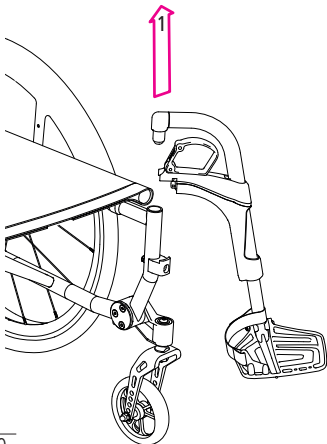

Fig. 20
4. Now you can pull upwards on the leg rests and remove them (1, Fig. 20).